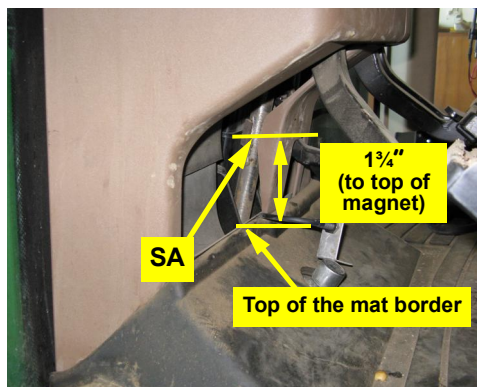

Figure 2: Installed magnets
- c. Using the epoxy, attach both magnets **SA**  $180^\circ$  from each other on the steering shaft (Figure 2).